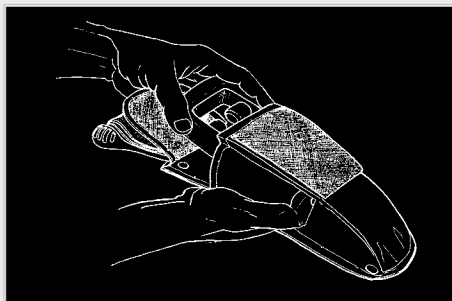

Fig. 9
- 2) Place the desired weights (max 6 kg, 13 lb for each compartment) (Fig. 9) inside the MRS compartment. If only a small number of weights are being used, close the inner Velcro of the pocket, to prevent the weights from shifting during the dive. Close the outer Velcro flap.